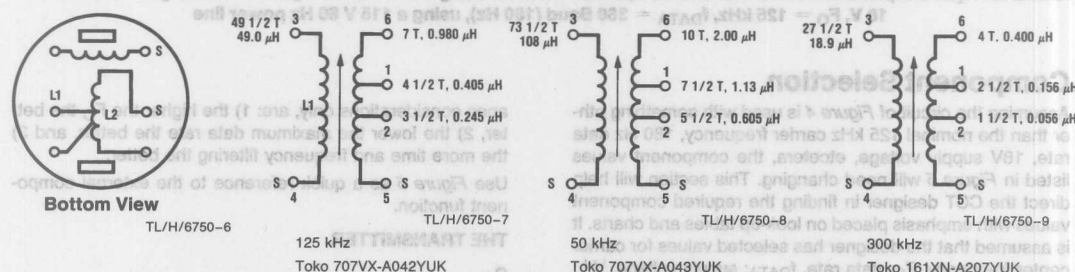

FIGURE 7. The recommended T_1 transformers, available through:
It is recommended that CCT systems use the recommended transformers, described in Figure 7, for T_1 . The 3 transformers are optimized for use in the ranges of 50–100 kHz, 100–200 kHz, and 200–400 kHz with unloaded Q's (Q_U) of about 35, and loaded Q's (Q_L) of about 12. Three secondary taps are supplied with nominal 7.07, 10, and 14.1 turns ratios (N) to drive industrial and residential power line impedances of 3.5, 7, and 14Ω respectively. All are inexpensive, all have the same pin-outs for easy exchange in a PC board, and all are small - on the order of 10 mm diameter at the base.